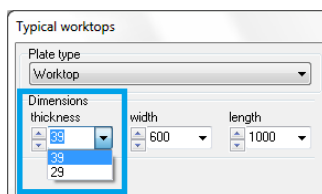

Fig. 204 – worktop edition
- you can set the thickness of the worktop to be inserted by entering the specified value in the appropriate field (Fig. 204).